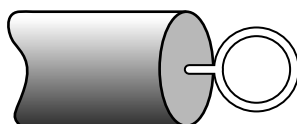

Fig. 1.1
- 1 The diameter of the hook should be similar to that of the wooden rod. The nail should fit easily through the hook. The hook should be screwed centrally into one end of the wooden rod as shown in Fig. 1.1.